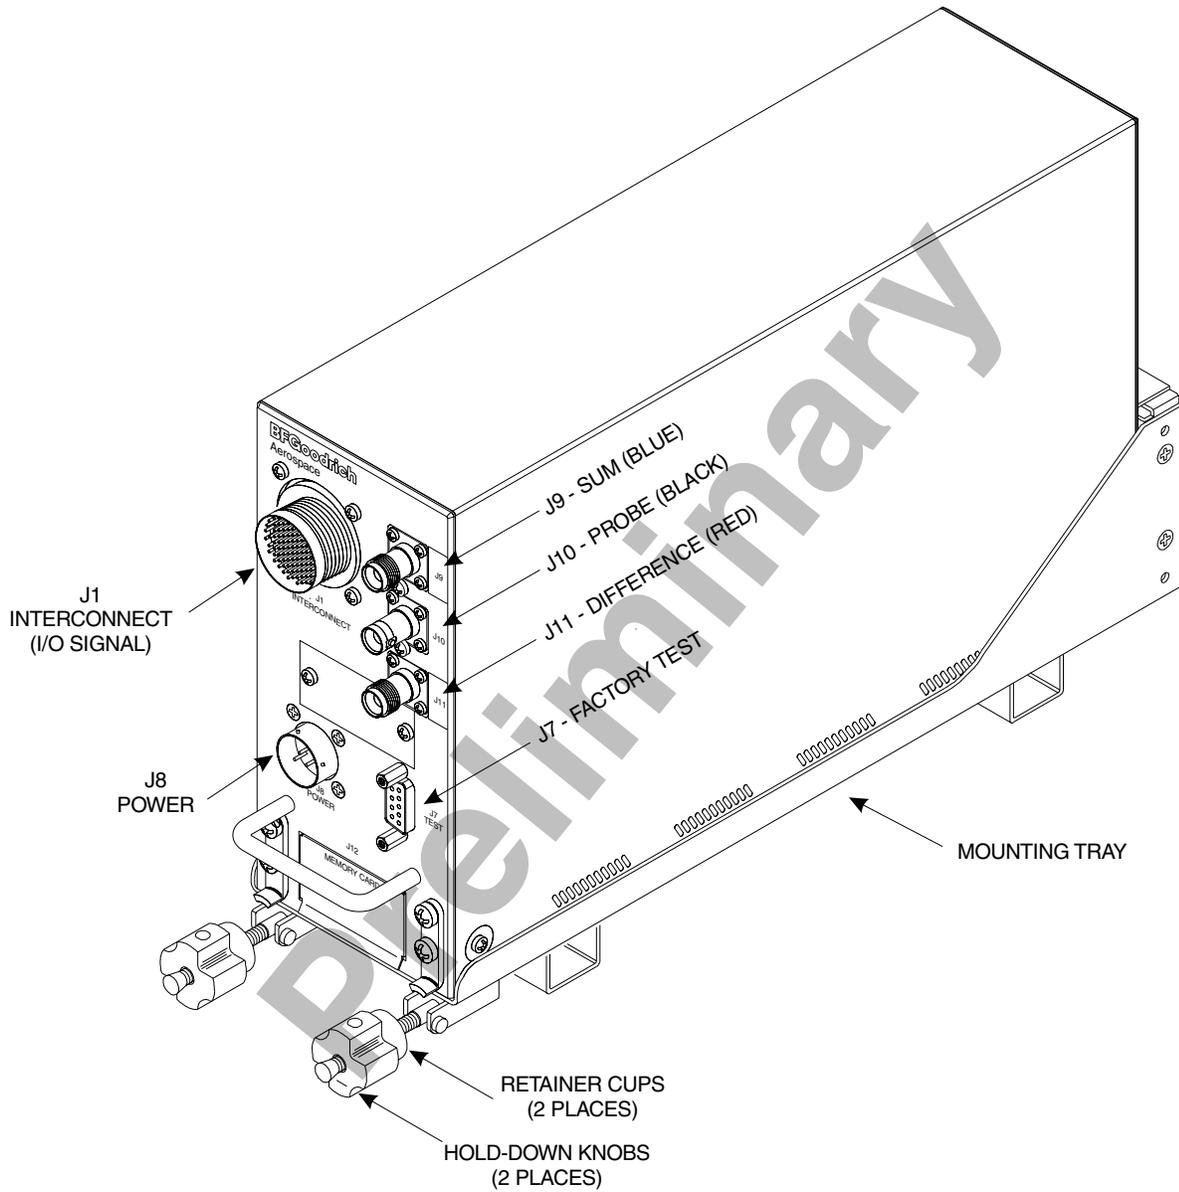

Figure 2-14. TRC899 Installation
1. Slide the TRC into the mounting tray (see figure 2-14). Ensure that the rear hold-down pins on the mounting tray are properly inserted into receptacles on the TRC.